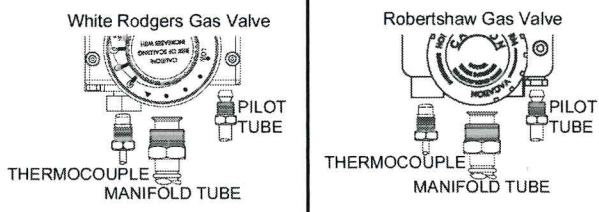

Figure 9
3. Remove the outer door from around the burner tubing at the base of the water heater. Disconnect the three connections from the bottom of the gas control valve/thermostat, being careful to note their location, see Figure 9.